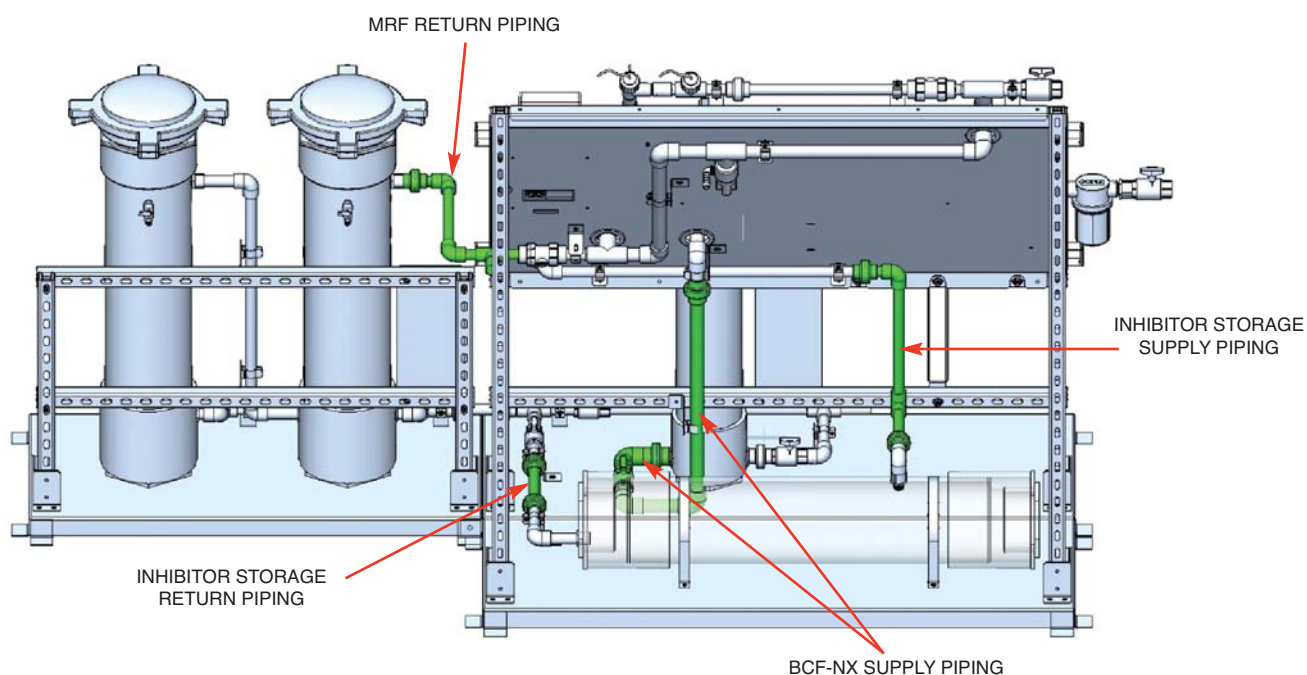
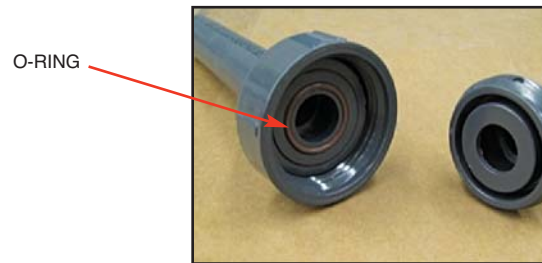

Figure 10 – Rear View of Piping
Figure 12 – Verify Union O-Ring Placement Prior to Making Connections
- 2.11 Complete the piping by installing the eight (8) shipped loose sections shown in green. Pipe sections include union fittings for tool-free installation. Verify that O-rings are in place prior to making each connection. O-rings, shown in Figure 12, are required on every union. The Supply Strainer and Isolation Valve section has a threaded connection. Use recommended thread sealant for this installation. See Figures 10, 11 and 12.